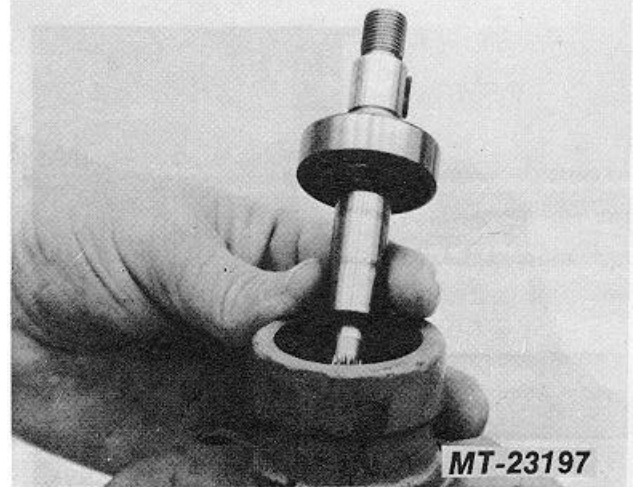
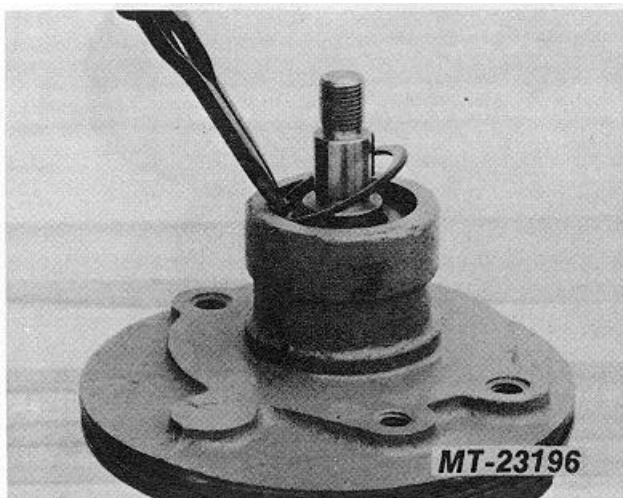

Fig. 18 Remove Shaft Assembly
Fig. 17 Remove Retaining Ring
12. Remove retaining ring and shaft assembly (Fig. 17). The shaft assembly can be removed with the hands alone (Fig. 18).
1. Install shaft and bearing assembly (Fig. 18). Secure with retaining ring (Fig. 17).